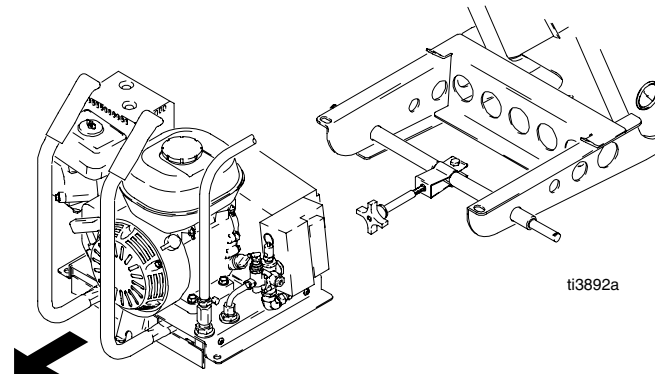

Fig. 5
4. The Compressor Power Pack (Z) slides off back of cart. See Fig 5.